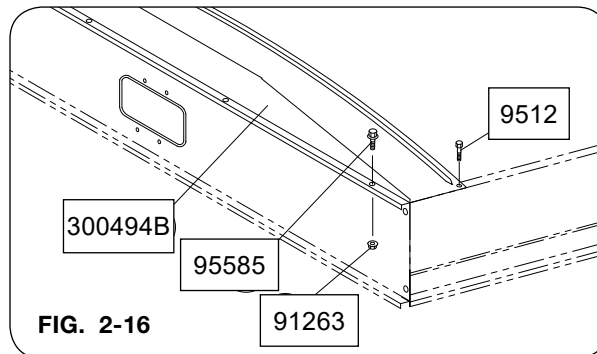

FIG. 2-16
2. Assemble the end caps (300494B) to the front and rear side boards with flange screws (95585) and flange nuts (91263). Fasten to right and left side boards with 1/4" x 1" self-drilling screw (9512). See FIG. 2-16.